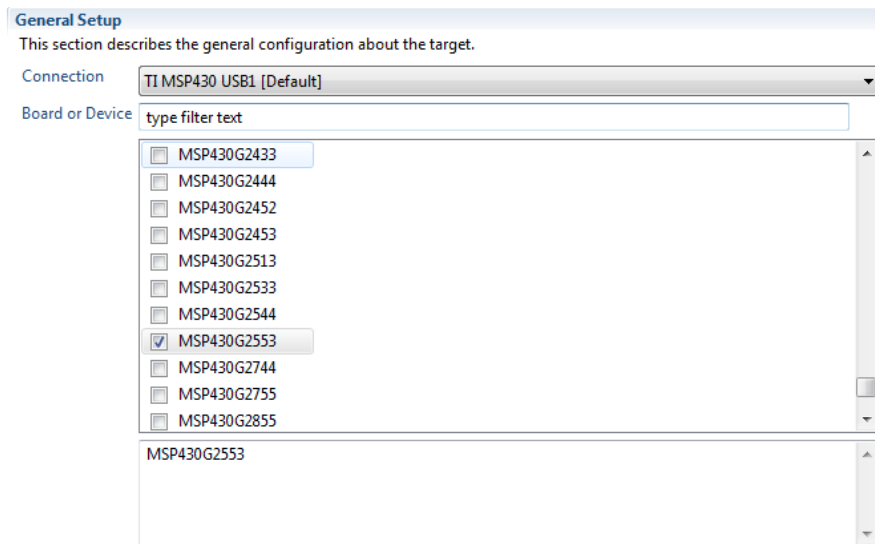

Figure 6. Target Configuration Setup
- Figure 6 illustrates how the Target Configuration should be set up. Save the Target Configuration file.